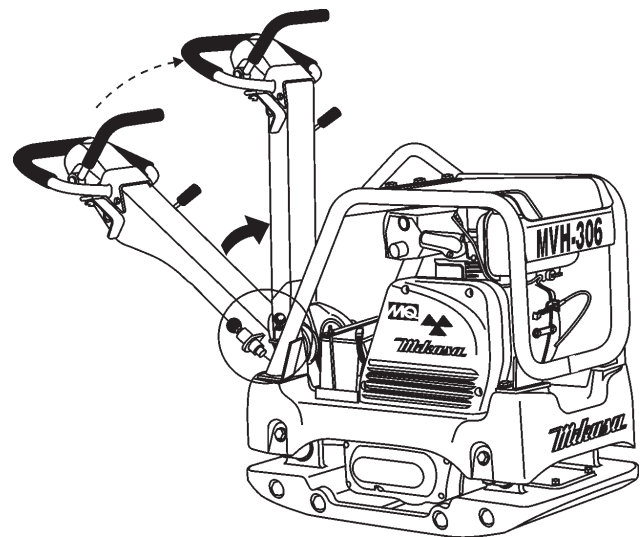

Figure 24. Stowing the Handle
1. Push up the handle upward (Figure 24) until the handle locks in place.